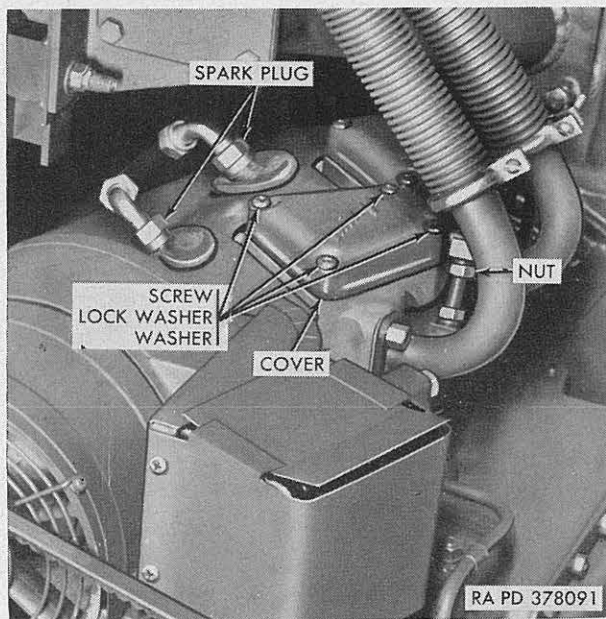
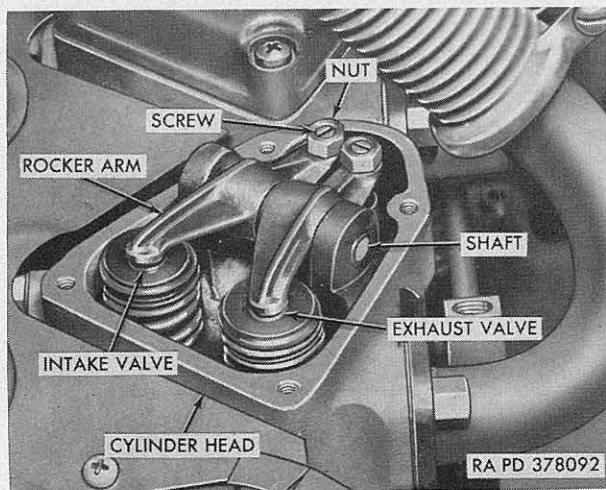

Figure 20. Valve rocker cover installed on cylinder head.
Figure 21. Cylinder head with valve rocker cover removed.
a. *Adjustment.* Unscrew nut securing oil tube assembly (fig. 20) to valve rocker cover. Remove four cross-recess-pan-head screws, plain washers and internal teeth lockwashers securing rocker cover to cylinder head and remove cover and
gasket. Remove spark plugs (par. 54) and crank engine by hand until piston of cylinder on which clearance is being adjusted is at top dead center on firing stroke. Loosen nut on rocker arm adjusting screw (fig. 21), adjust screw to give clearance between arm and valve stem of 0.008 to 0.009 inch with engine cold, and tighten nut. Recheck the clearance and readjust if necessary. Adjust clearance of second valve in same manner. Position gasket and valve rocker cover (fig. 20) on oil tube assembly and cylinder head and start nut into elbow. Secure cover to cylinder head with four No. 10-24 x 1 cross-recess-pan-head
*b. Replace Valve Rocker.* Remove valve rocker cover (a above) and slide valve rocker arm shaft (fig. 21) out of cylinder head and valve rockers. Position new rocker or rockers as required and slide rocker arm shaft into cylinder head and rockers. Adjust rocker clearance and install valve rocker cover and spark plugs (a above).
*c. Replace Valve Rocker Arm Adjusting Screw.* Remove valve rocker cover (a above). Loosen locknut (fig. 21) on rocker arm adjusting screw, and remove screw and nut from rocker arm. Install new screw and nut. Adjust clearance, and install valve rocker cover and spark plugs (a above).